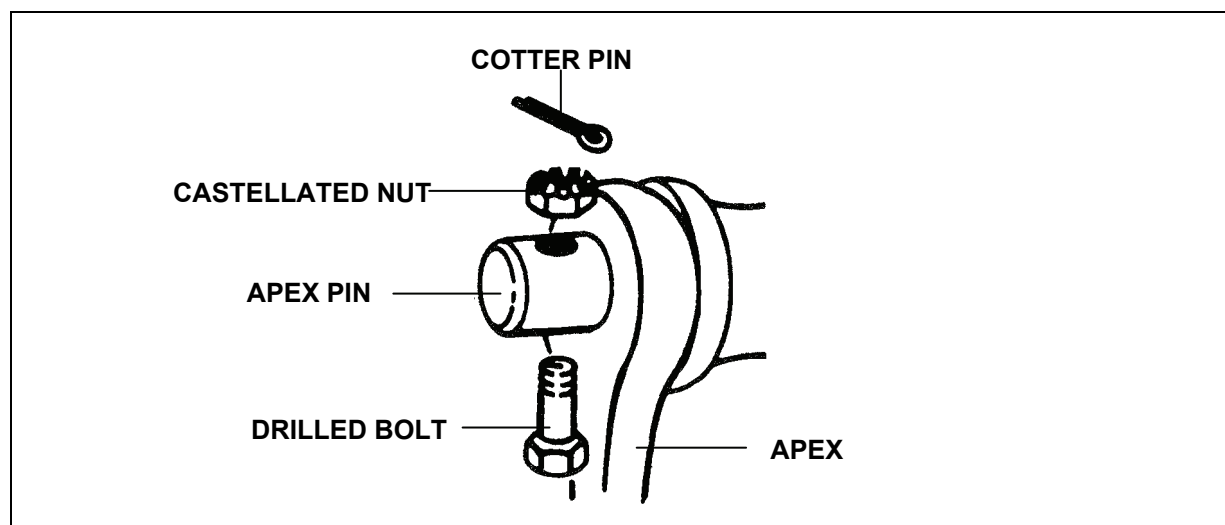

Figure 6-17. Bolt Assembly
- Remove the bolt from the pin (Figure 6-17).